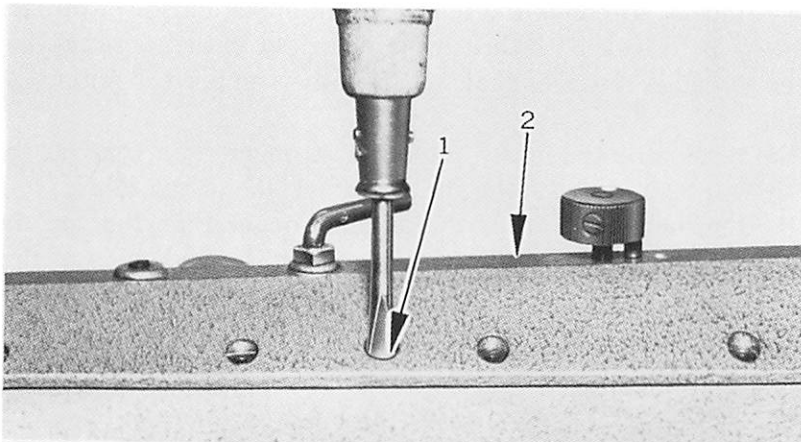

Fig. 10
## ADJUSTMENT OF THE PRESSURE ON GOODS (Fig. 10)
1. Remove the top cover (2, Fig. 10)